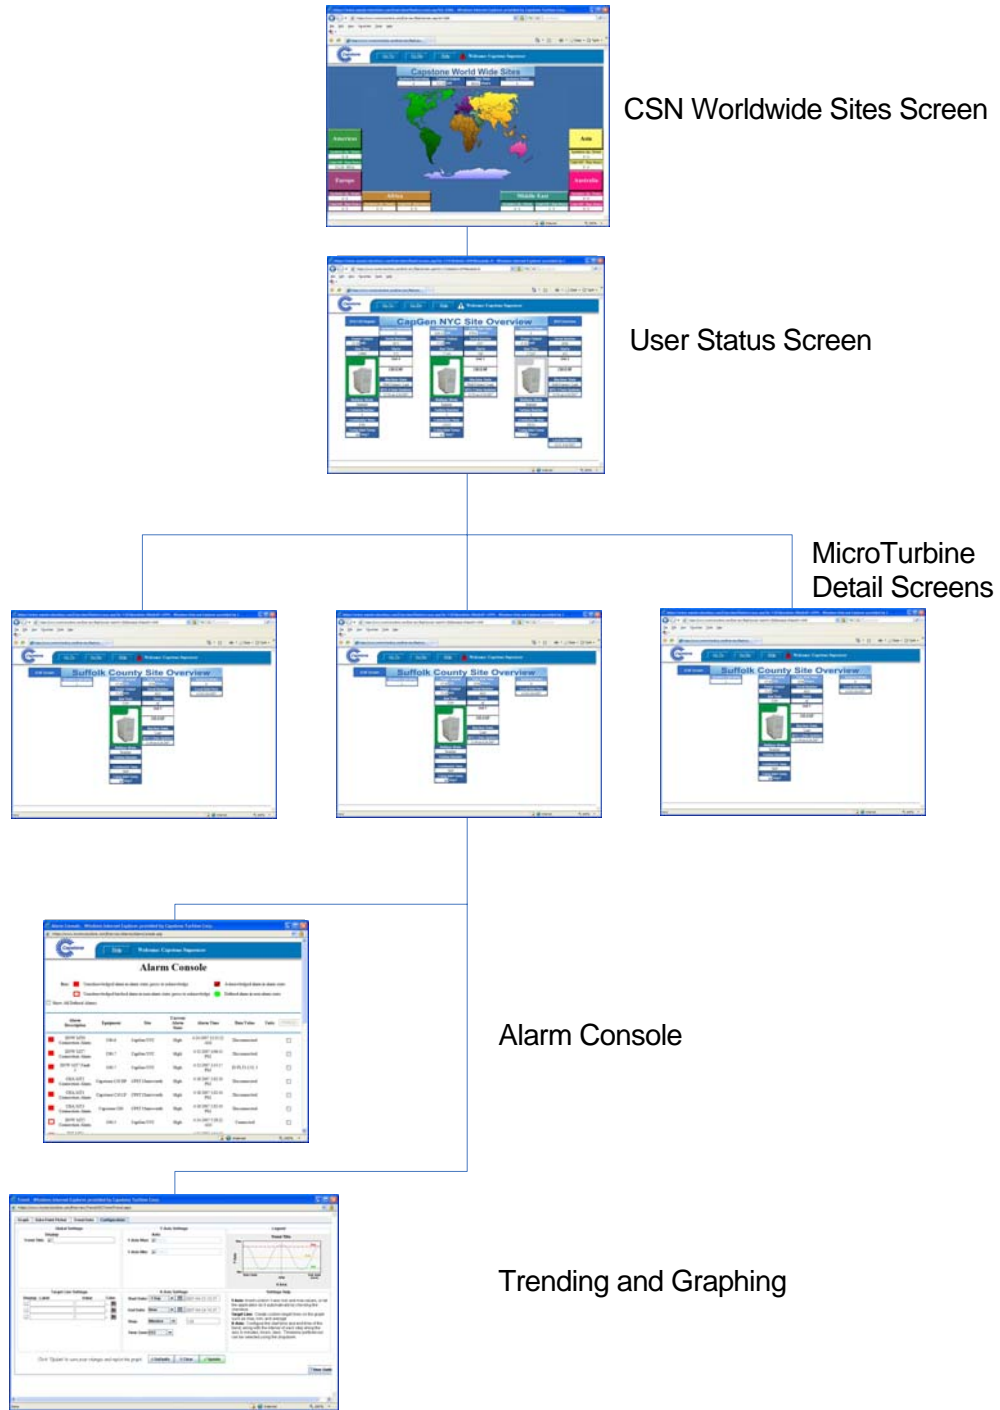

Figure 12. Three MicroTurbines or Less, No Balance of Plant Monitoring
2. A site containing three MicroTurbines or less, no Balance of Plant monitoring (see Figure 12).